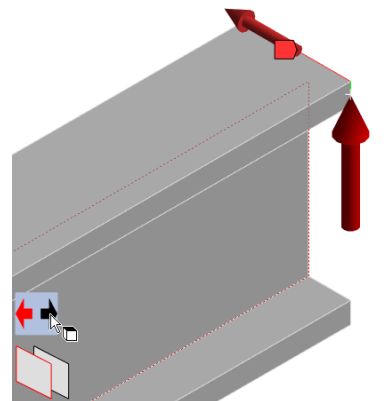

Figure 2-53 Choosing the **Flip** button from the Graphics screen
13. Choose the **Flip** toggle button available in the graphics screen, refer to Figure 2-53, to specify the direction of load as downward.